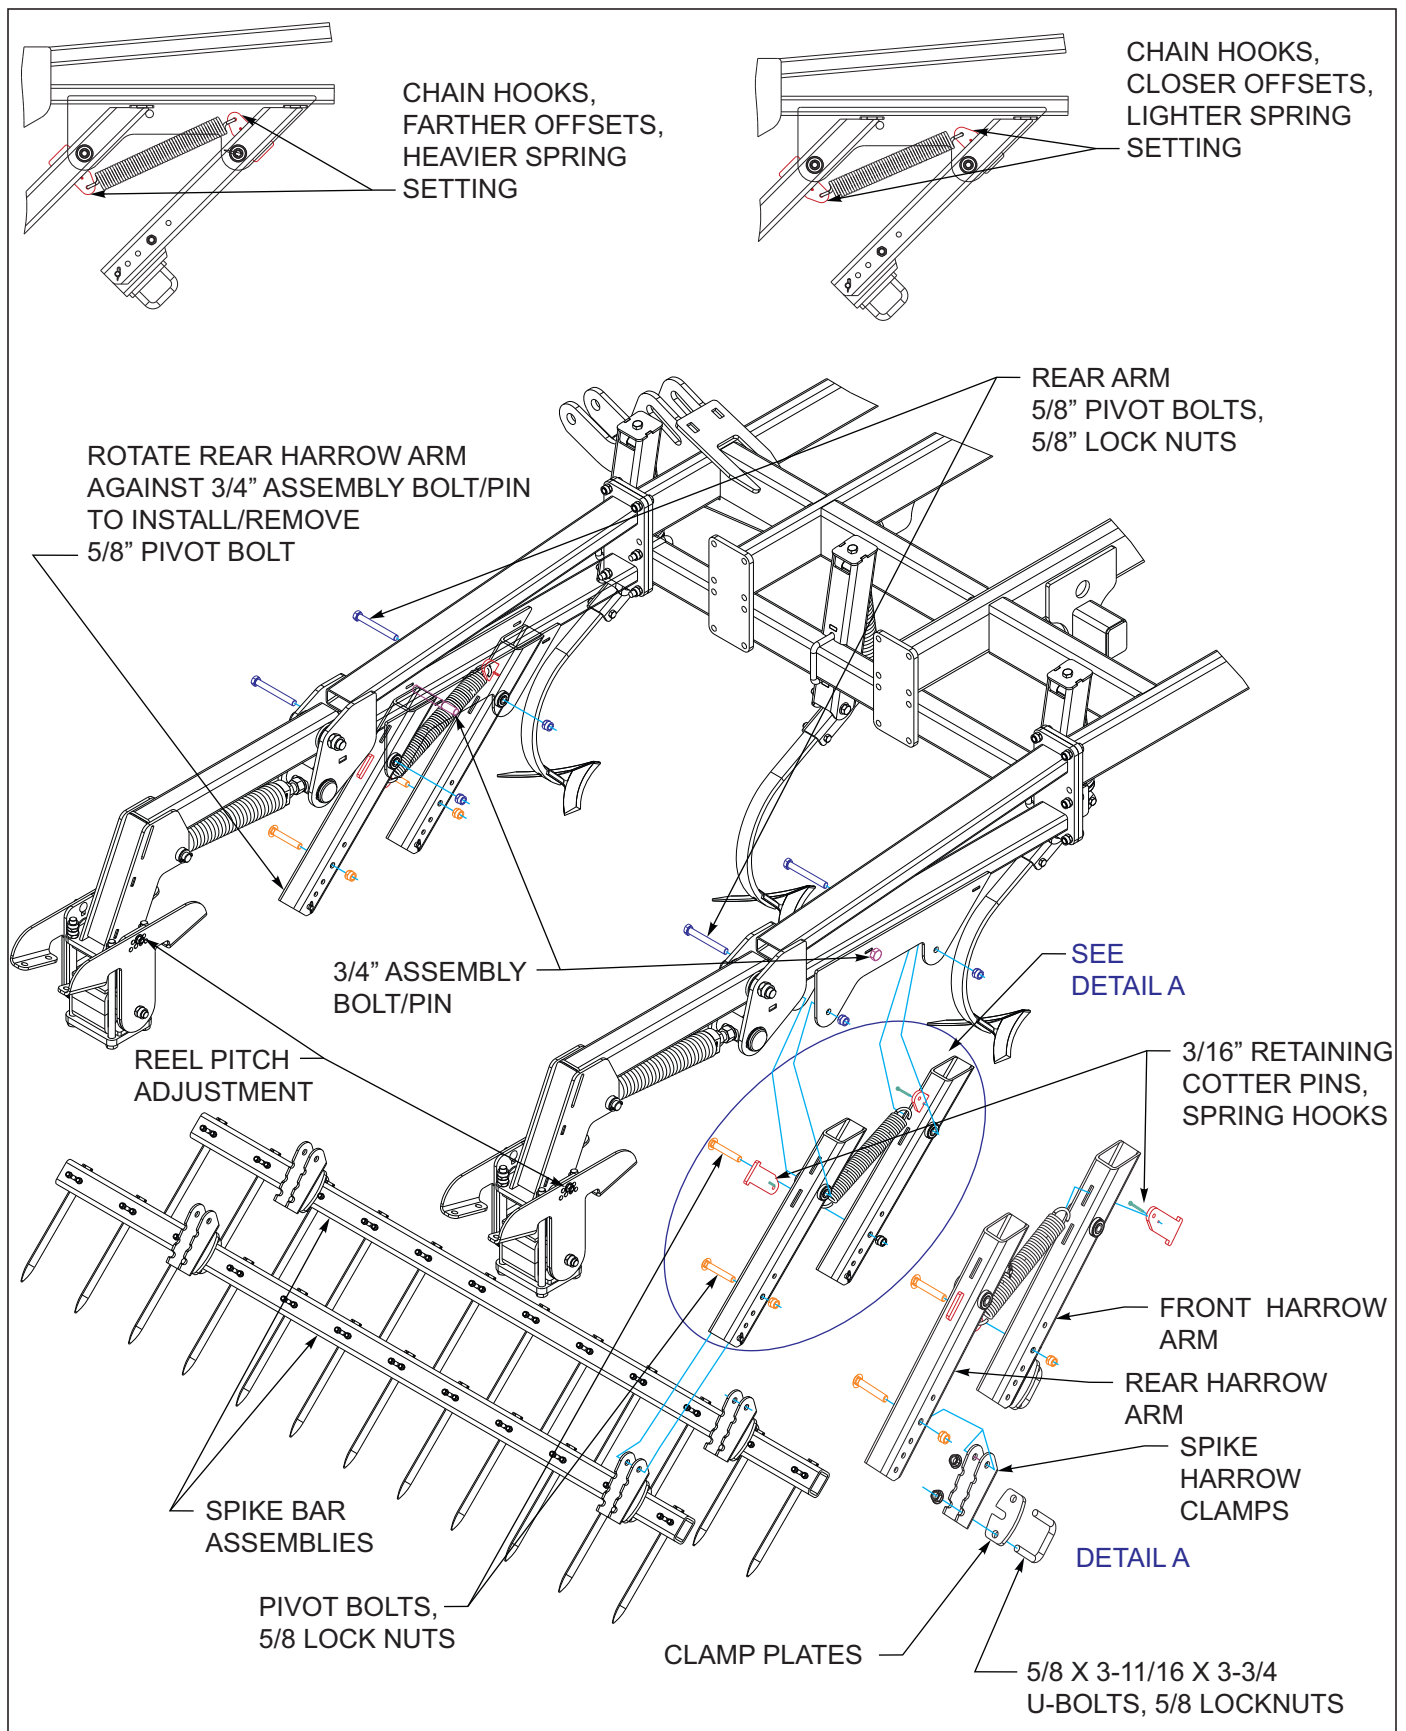

Figure 4-22: Spike & Double Reel Adjustments
4. The chain hooks on the spike bar arms are offset to allow the spring pressure to be changed *See Figure 4-22*. The heavier setting should work for most conditions. To change the spike harrow spring pressure, first remove the pivot bolt through the spike harrow clamp and lower both spike bars for each section to the ground. Insert a $\frac{3}{4}$ " bolt/pin (not provided) through the harrow arm assembly hole.